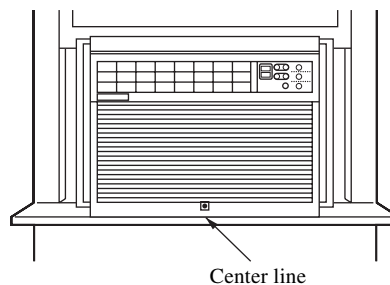

FIG. 5
- When the air conditioner drops into the bracket, the air conditioner will be centered in window opening as shown in FIG. 5.